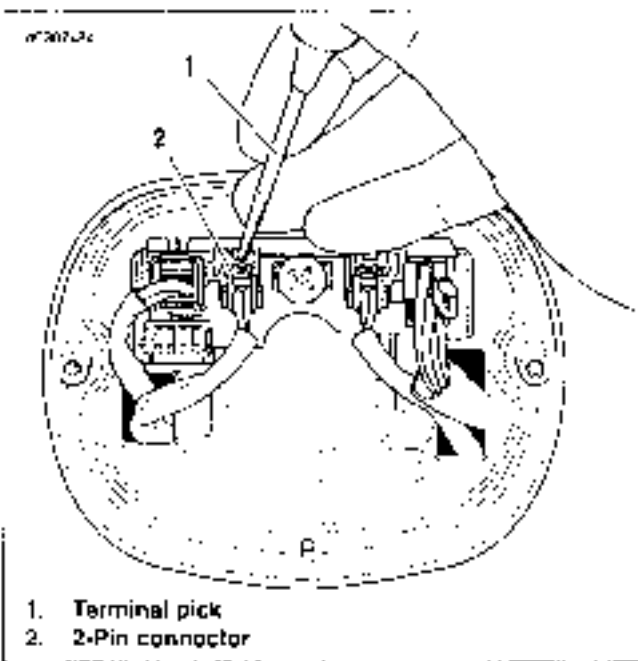

Figure 8-37. Removing 2-Pin Connectors
3. See Figure 8-37. Using a terminal pick or small screwdriver, depress locking tabs and remove two 2-Pin Turn signal connectors and 6-Pin Power in connector from circuit board.